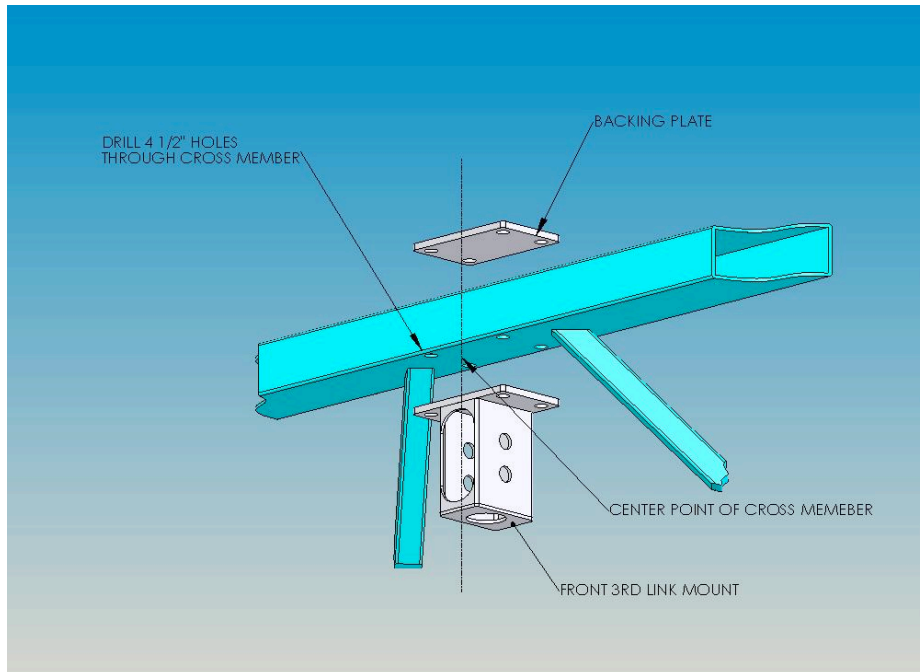

Figure 2.
- 7) Install the third link chassis mount to the center of the chassis cross brace that passes across the chassis above the pinion yoke using the supplied hardware. Do this with the opening for the third link facing towards the back of the car. Measure the cross brace to find the center. Mark the holes using the mount for a template and drill the 4 1/2" holes as required. After drilling, grind off the surface mating area for future welding. Bolt the mount in place using the supplied hardware. This will be welded later. **DO NOT WELD AT THIS TIME.** See figure 2.